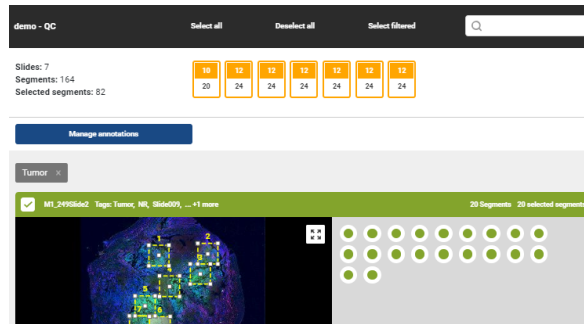

Figure 57: Tag selected for filtering, but not yet applied
- The chosen tag will appear as a gray button and the scan icons will show a preview of the segments included in this selection (see Figure 57). Note that the filter *has not yet been applied*; the segment picker buttons next to each image viewer indicate the current selection.